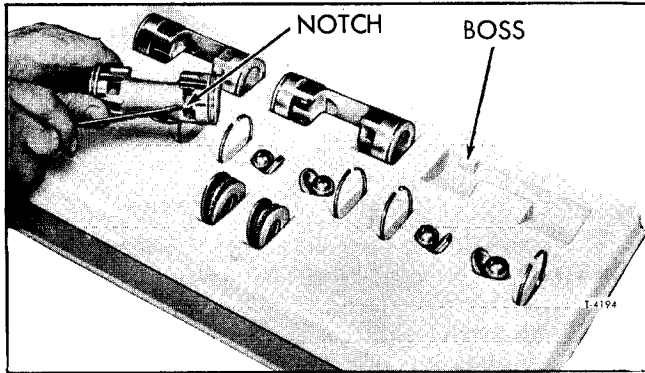

Figure 53—Notch Identifying Front End of Piston
**NOTE:** The front of the piston may be identified by a notch in the casting web. See Figure 53. The piston compartments in tray (J-9402) have a boss at this notch location to indicate the front.